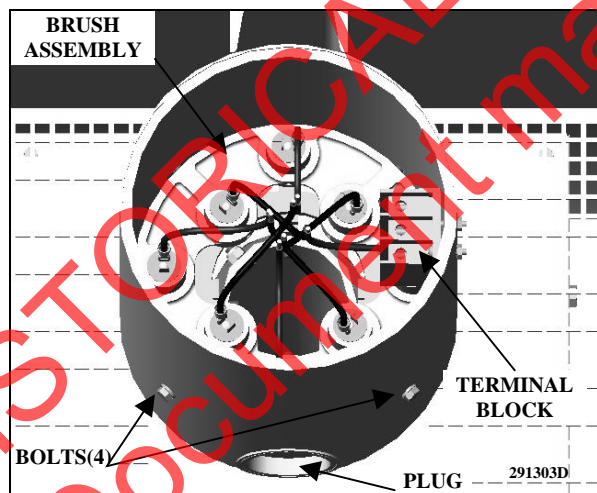

Figure 4-4. Installation/Removal Brush Assy.
3. Remove the four bolts on the side of the collector housing assembly (see Figure 4-4) and remove the brush assembly. Note: Press down on brush assembly while removing the four bolts. Brush assembly is under spring tension while in position.